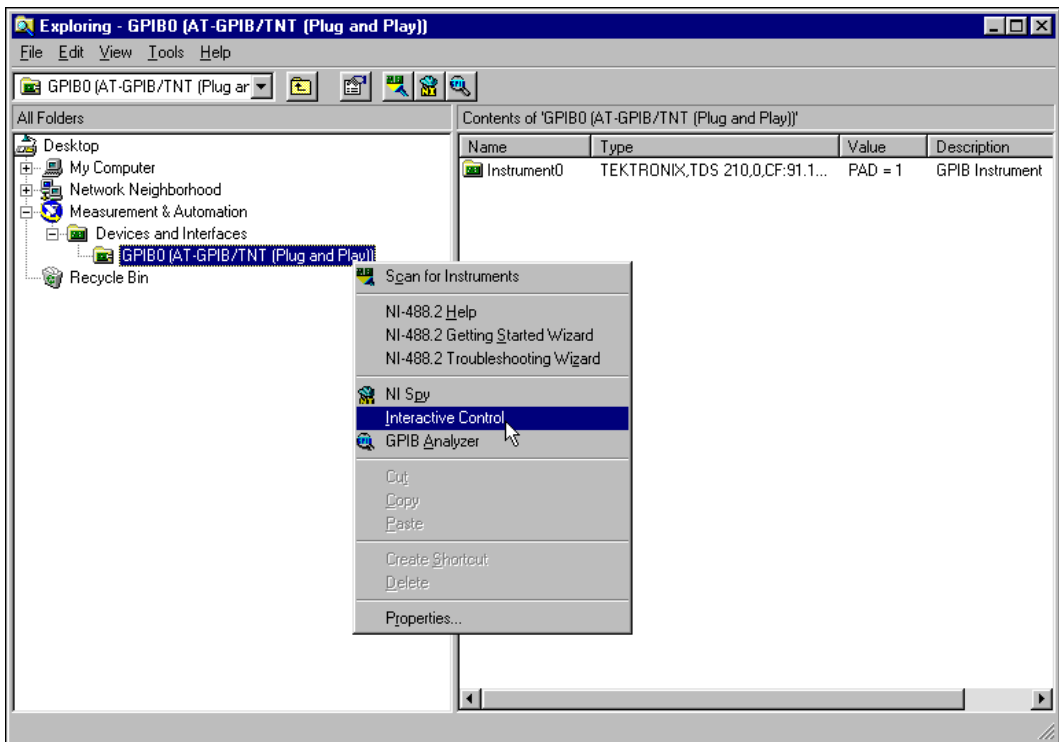

Figure 2-9. Select Interactive Control Utility
1. Select the GPIB interface under **Devices and Interfaces** in the left window frame of Measurement & Automation Explorer, right-click, and choose **Interactive Control**, as shown in Figure 2-9.